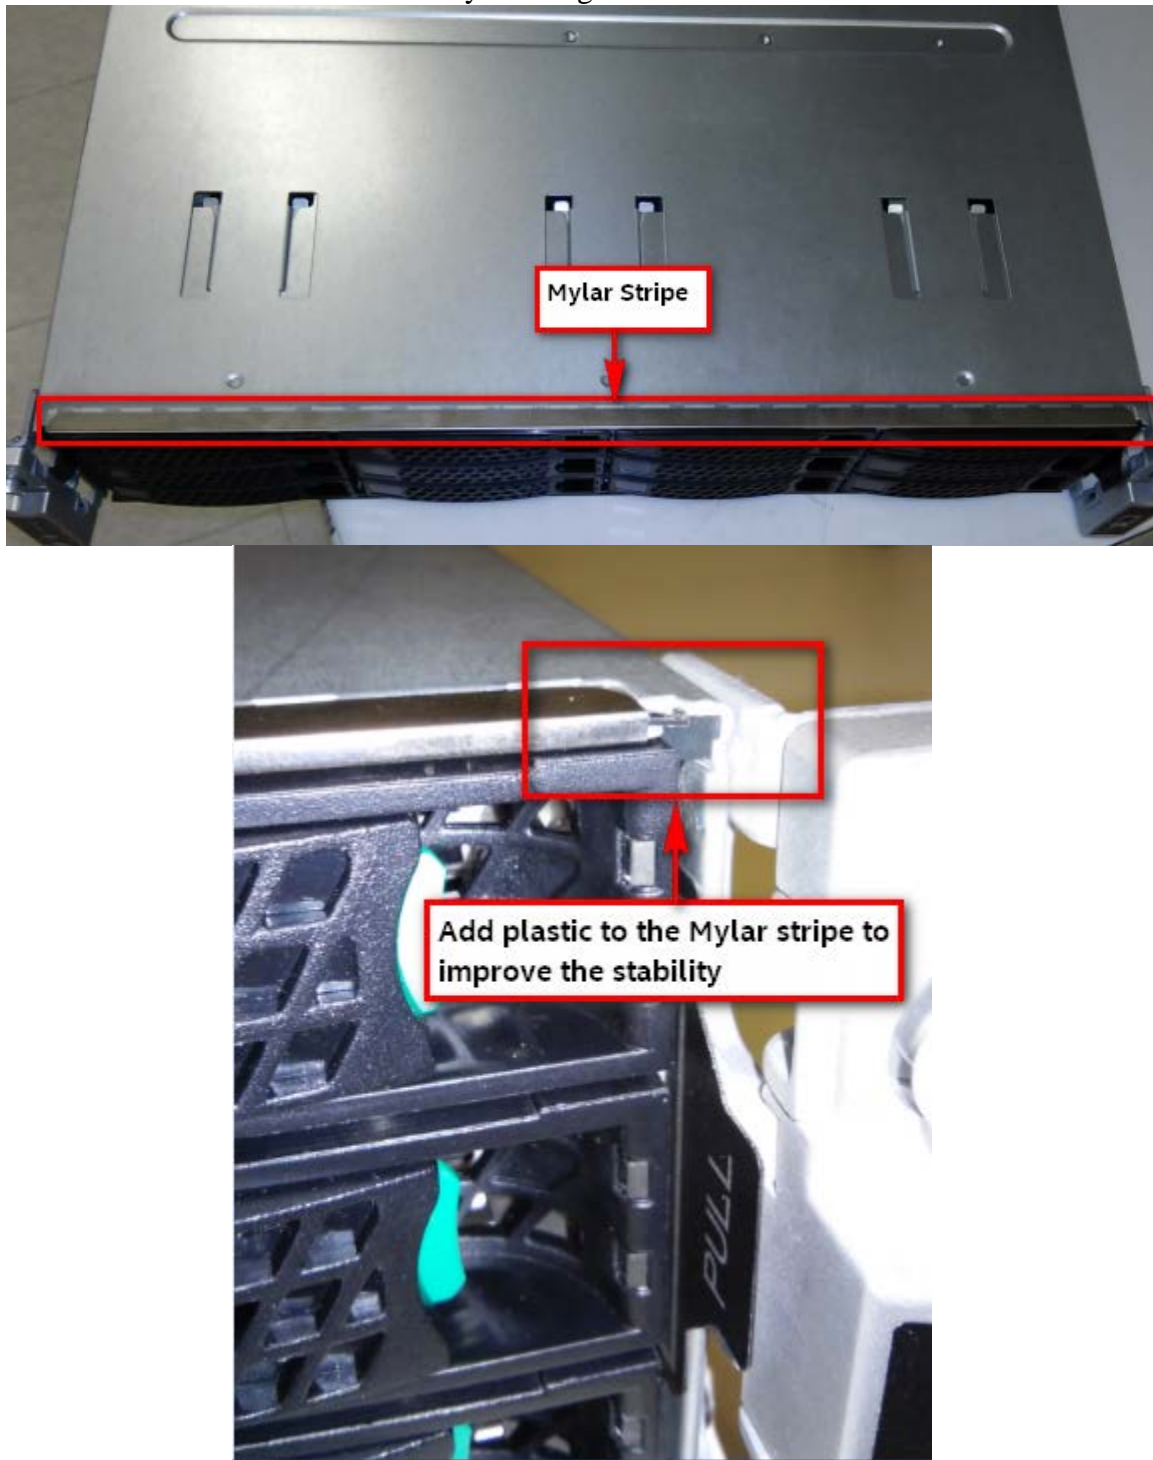

Figure 2
9. Add the Mylar plastic on the bottom of the hard disk carrier bay to improve the fit of the chassis mechanical assembly. See Figure 2:
2. Add the Mylar plastic on the bottom of the hard disk carrier bay to improve the fit of the chassis mechanical assembly. See Figure 2.